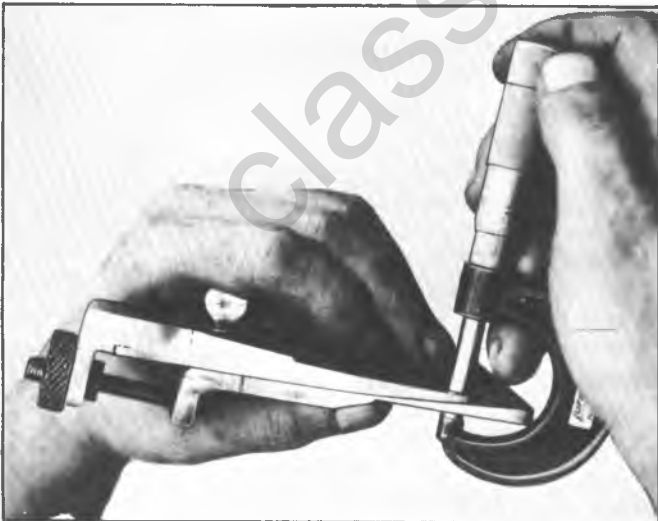

Fig. 8A—Measuring Gauge Thickness
- a. Using a micrometer as in Figure 8A, measure the thickness of J-22779 in a minimum of three places and average these readings. Record the result.